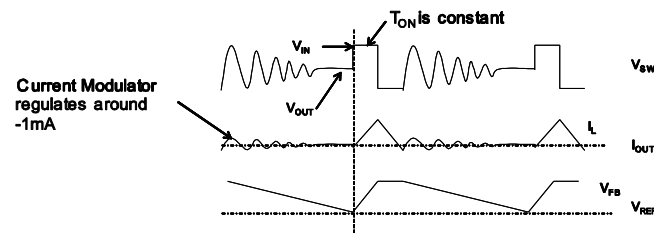

Figure 3—DCM Operation
Discontinuous conduction mode is shown in Figure 3. When V_{FB} is below V_{REF} , the HS-FET is turned on for a fixed interval, which is determined by the one-shot on-timer. See Equation (1). When the HS-FET is turned off, the LS-FET is turned on until the inductor current reaches zero. In DCM operation, the V_{FB} does not reach V_{REF} when the inductor current is approaching zero. The LS-FET driver turns into tri-state (high Z) when the inductor current reaches zero. A current modulator takes over the control of the LS-FET and limits the inductor current to less than -1mA . Hence, the output capacitors discharge slowly to GND through the LS-FET. As a result, the efficiency during a light-load condition is improved greatly. The HS-FET is not turned on as frequently during a light-load condition as it is during a heavy-load condition (skip mode).